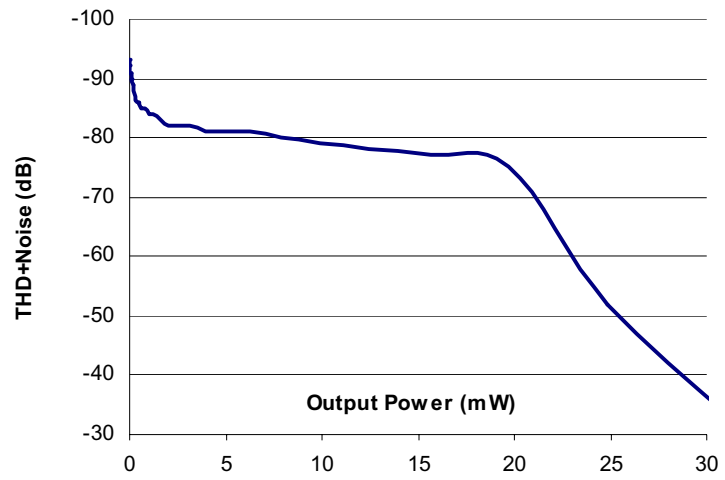

Figure 3 Distortion Versus Power on Headphone Outputs, using 32Ω Load and AVDD = HPVDD =
1. Harmonic distortion on the headphone output decreases with output power – see Figure 3.